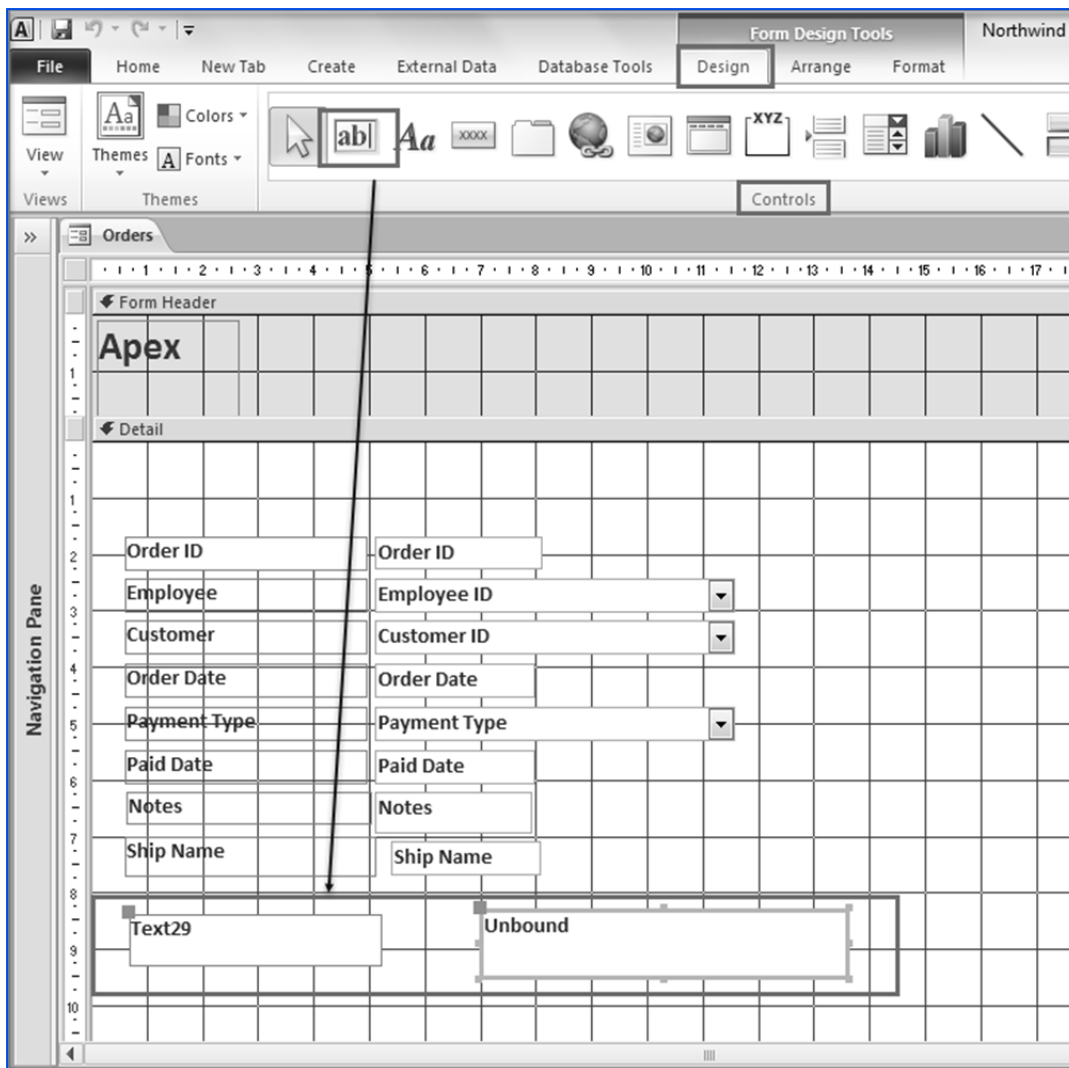

Fig. 4.2.40: Draw the TextBox on form
1. Open the *frmOrders* form in the *Design* view. Add a *TextBox* to a form, select the *TextBox* control from *Design* -> *Controls* and draw it on the form, as shown in Fig. 4.2.40.